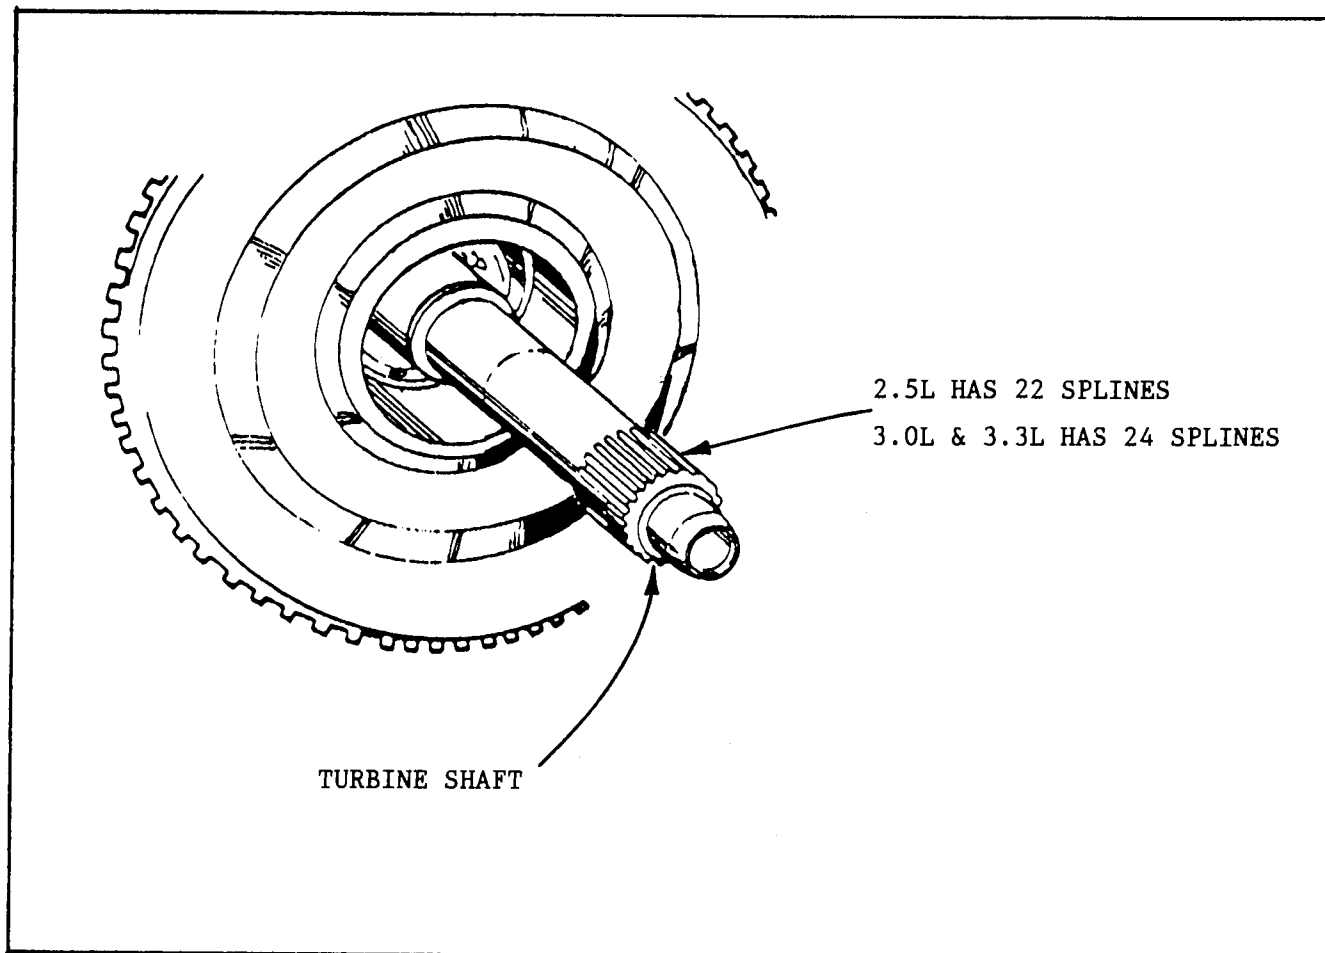

Figure 12
- (2) **TURBINE SHAFT SPLINES** - The 2.5 Litre engine uses a turbine shaft with 22 splines for the torque converter, and the 3.0 and 3.3 Litre engines will use the current 24 spline turbine shaft (See Figure 12).